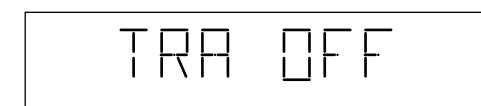

Fig. 4
3. "TRA OFF" is displayed and TRADE mode is cancelled. About 2 seconds later, the tray is closed automatically. (Fig. 4)